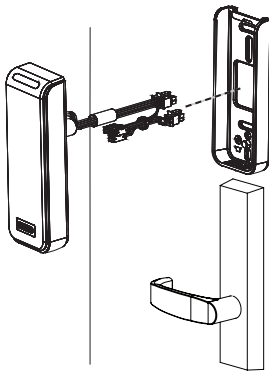

Fig. 6A
1. Feed reader harness through door (Fig. 6A).